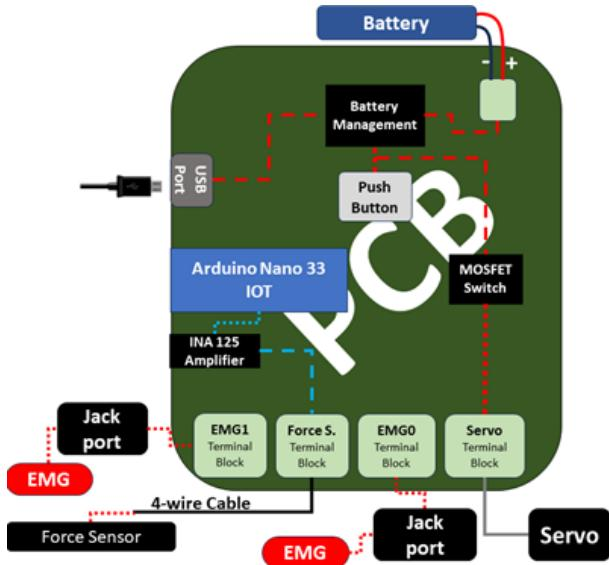

Figure 5.1: The schematic illustrates the key components of the Classroom Exo PCB.
The heart of the *Classroom Exo* system is the Printed Circuit Board (PCB), shown in Figure 5.1. The Classroom Exos Printed Circuit Board (PCB) enhances the exoskeletons performance by upgrading to a 2-cell Li-Polymer Battery with a battery management Integrated Circuit (IC), ensuring optimal power for operation. With rechargeable batteries the replaceable batteries, maintenance is simplified. The streamlined connection process and safety features make *Classroom Exo* more user-friendly, especially for educators and students. Featured components include the BQ25886 battery management IC for efficient power regulation, Arduino Nano IoT 33 for control and communication, a Universal Serial Bus (USB) port for battery charging, a Metal-Oxide-Semiconductor Field-Effect Transistor (MOSFET) switch for servo control, and 5 terminal blocks connecting the battery, Surface Electromyography (sEMG) sensors, servo motor, and force sensor to the PCB.